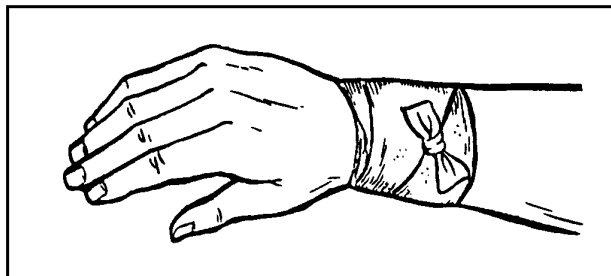

Figure 3-19
- a. Use a circular wrap to end other bandage patterns, such as a pressure bandage, or to cover small dressings. (See Figure 3-19.)